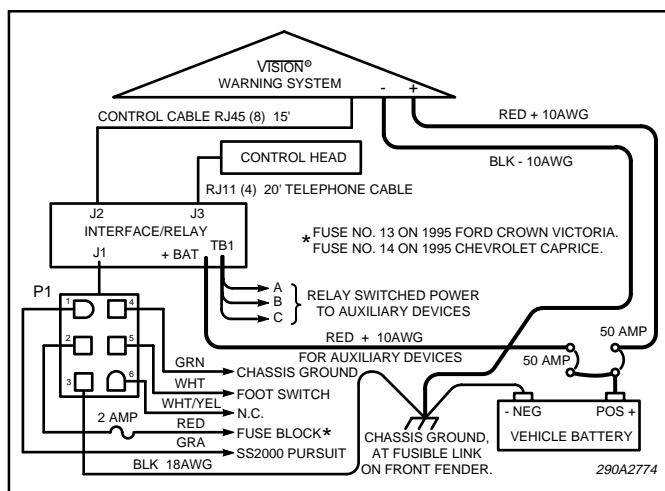
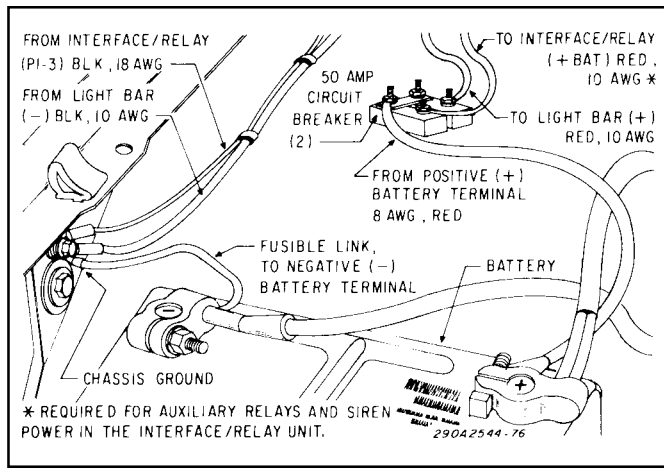

Figure 3-2. Block Wiring Diagram.
Figure 3-6. Battery Connections.
Before performing any installation, see figure 3-2 (block wiring diagram); plan all wiring and cable routing. Ensure that the lightbar is installed on the vehicle roof in accordance with the instructions packed with the mounting kit.
To complete this portion of the installation, refer to the block wiring diagram (figure 3-2) and figure 3-6. Proceed as follows:
To protect the wire, a separate circuit breaker must be connected as close as practical to the positive (+) battery terminal. FUSES ARE NOT ACCEPTABLE. See figures 3-2 and 3-6. Install the supplied two 50-ampere circuit breakers (Federal Part No. 8474176). DO NOT remove the jumper on
E. After performing steps A through D, connect the black (-) wires to the fusible link at the front fender between the negative (-) battery terminal and chassis ground. This is the **ONLY** chassis ground allowed for these wires. See figure 3-6. Secure mechanical and electrical connections are required.
F. See figure 3-6. Connect all red (+) wires to the positive (+) terminal of the power source. Again, secure mechanical and electrical connections are required.